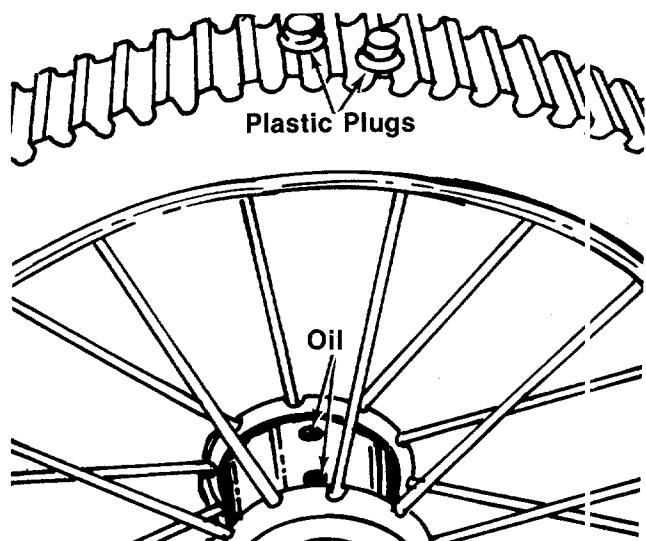

FIGURE 8.
- Add several drops of oil to the hubs of the rear wheels as shown in figure 8. Insert the plastic plugs (H) into the hubs of the rear wheels.